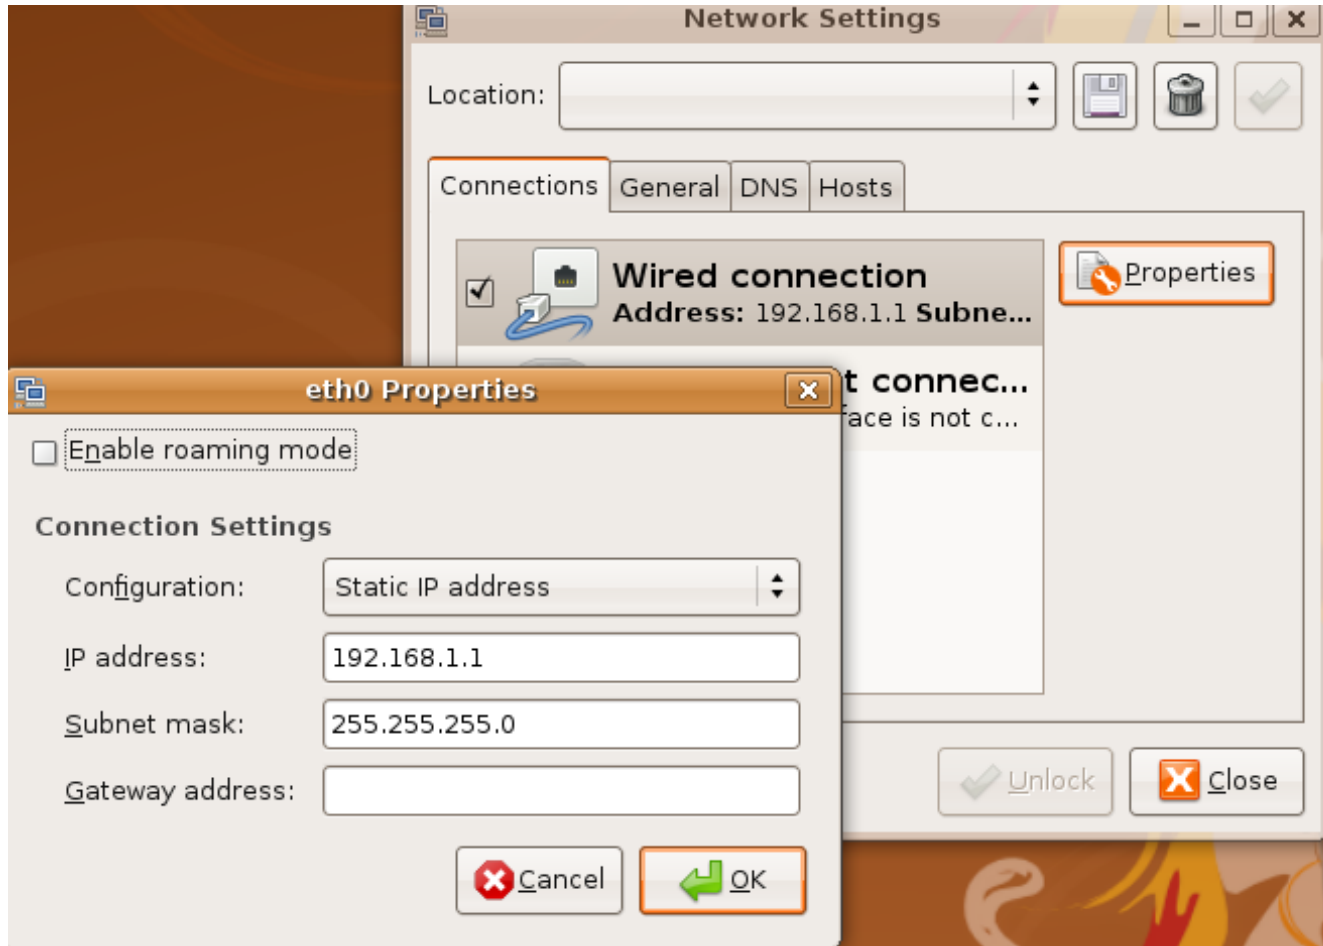

Figure 22. Network settings
3. Connect the Ethernet cable to the Linux host computer which had previously run the LTIB. Configure the network settings according to the U-boot settings. In Figure 22 you can see the network properties for this example. Please refer to Configuring U-boot in order to check the U-boot settings in your system.